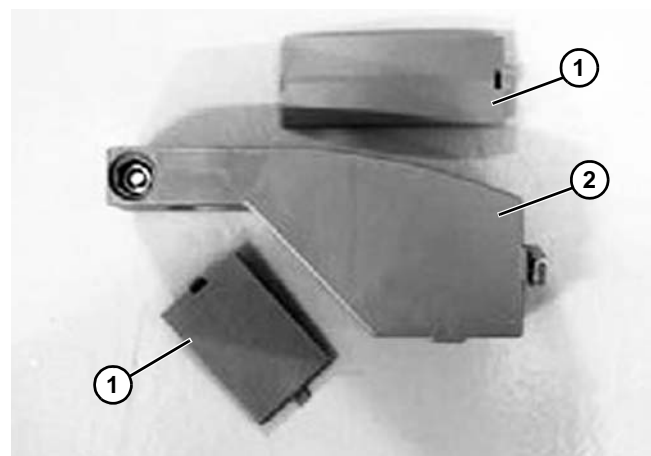

Figure 104
1. Open the upper and lower caps (**Figure 104, item 1**) and prepare the FGRB - 40 guide rail bracket (**Figure 104, item 2**) with T-bolt.